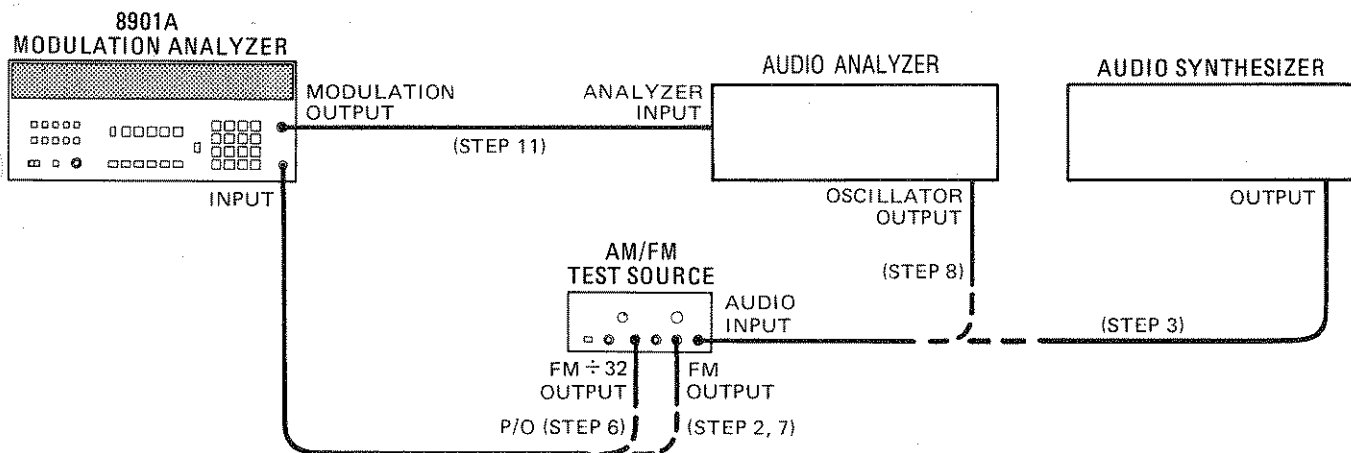

Figure 4-5.  $\Phi M$  Performance Test Setup
2. On the AM/FM test source, set the test mode to FM. Connect its FM output to the Modulation Analyzer's INPUT. (See figure 4-5.)
3. Set the audio synthesizer to 200 Hz at -10 dBm. Connect its output to the audio input of the AM/FM test source. (See figure 4-5.)
\* Connect the FM-32 output of the AM/FM test source to the Modulation Analyzer's INPUT to make this measurement. (See figure 4-5.) Press AUTOMATIC OPERATION, then MHz to retune the Measuring Receiver. If the resolution is not 0.001 rad, press  $\Phi$ M again.
- Connect the FM output of the AM/FM test source to the Modulation Analyzer's INPUT. (See figure 4-5.) Press AUTOMATIC OPERATION on the Modulation Analyzer.
- Set the audio analyzer's source to 1 kHz. Connect its output to the audio input of the AM/FM test source. (See figure 4-5.)
11. Connect the audio analyzer's input to the Modulation Analyzer's MODULATION OUTPUT. (See figure 4-5.) Set the audio analyzer to measure the distortion on the 1 kHz signal at the MODULATION OUTPUT. Set the high-pass filter on the audio analyzer to 400 Hz. (All audio analyzer filters should be off.) The distortion should be 0.1% (-60 dB or less).